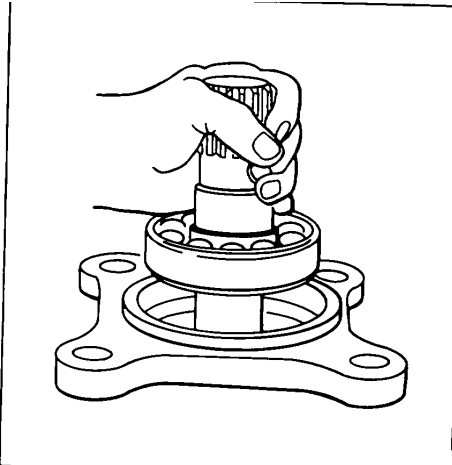

Figure 208.
3. Install motor shaft assembly (1, 38, 58, 49 and inner race of bearing 44) through the front face of the mounting flange(2) See Fig. 208.